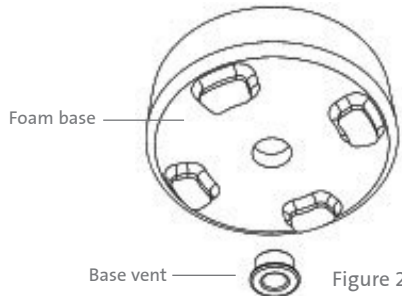

Figure 2
- ▶ Insert the base vent into the foam base from the underside. **IMPORTANT: the vent flange should be on the outside of the CoolCell FTS30 container (Figures 2 and 3).**